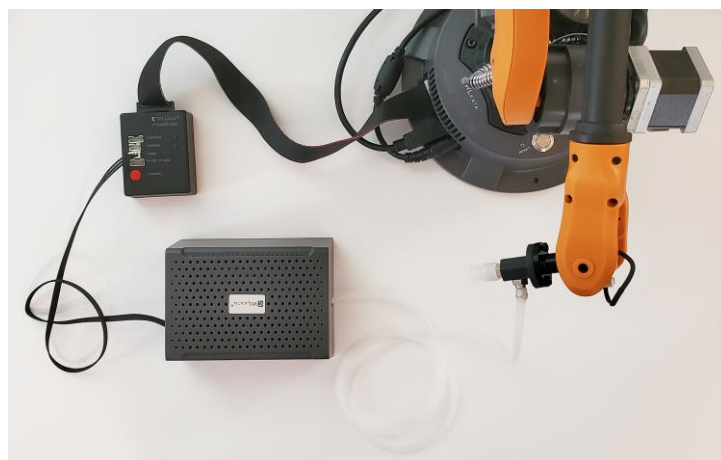

Figure 3.40 The method of connecting the Pneumatic Set with the manipulator
- (4) Plug one end of the wire connector into the **lower-second socket position (PUMP)** on the **Extender Box** unit, as shown in Figure 3.40.
- (5) Plug the other end of the wire connector into the Pneumatic Unit.
- (6) Link the air pipe on the Pneumatic Unit with the metal air outlet on the pneumatic tool.
- (7) Link the Extender Box with the Mirobot by using the supplied **IDC cable**, as shown in Figure 3.40.